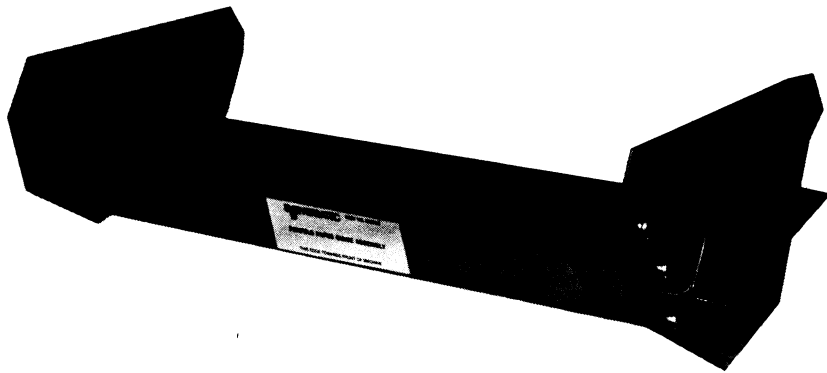

Figure 3-7 Fanfold Paper Guide
The fanfold paper guide and paper stacking insert are shown in Figures 3-7 and 3-8. These two parts are used for fanfold paper operation only. They are packaged separately for shipment.
12. If fanfold paper operation does not proceed properly, the paper may be misaligned with respect to the sensor. Check paper and fanfold paper guide assembly for correct installation (Figure 3-7).